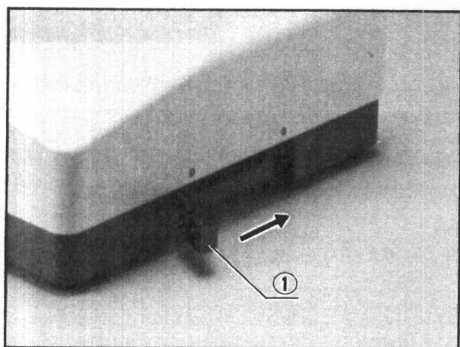

Fig. 24
- ① Slide the selector lever ① to the B position. (Fig. 24)
- ② Remove the diaphragm unit from underneath the stage glass when the adapter STAD1 or gliding stage SZH-SG is used.